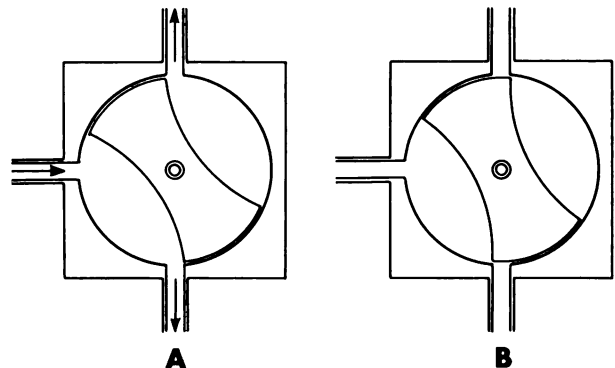

Figure 2J.
62. Figure 2J shows the governor of a pinwheel turbine with the shutter in two positions. During normal operation of the turbine, the shutter will move from position A to position B as a result of